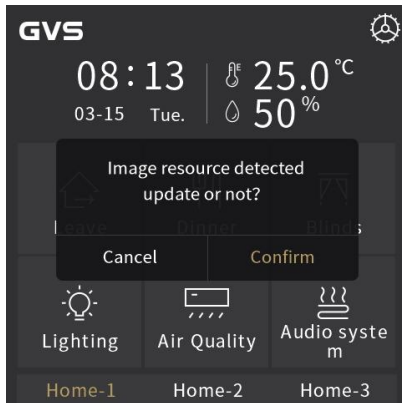

Fig.5.1
2. Insert Micro SD card into the device, if Micro SD card meet the above settings, and there are valid pictures, then pop up a window to request update, as shown in Fig.5.1;